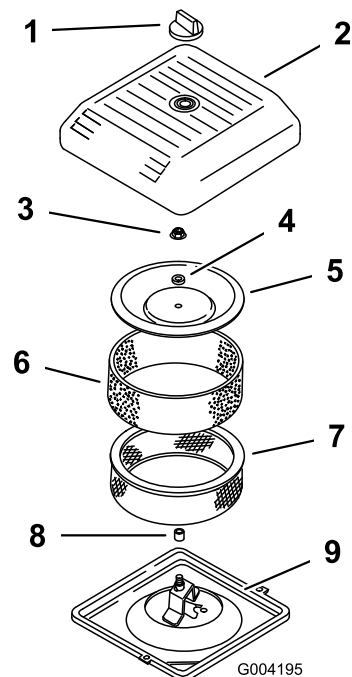

Figure 18
3. Unscrew the knob and remove the air cleaner cover (Figure 18).
4. Carefully slide the foam pre-filter off of the paper element (Figure 18).
5. Unscrew the cover nut and remove the cover, spacer and paper filter (Figure 18).
2. Place the air cleaner assembly onto the air cleaner base (Figure 18).
3. Install the cover, spacer and secure it with the cover nut (Figure 18). Torque the nut to 95 inch-lb (11 N·m).
4. Install the air cleaner cover and secure it with the knob (Figure 18).